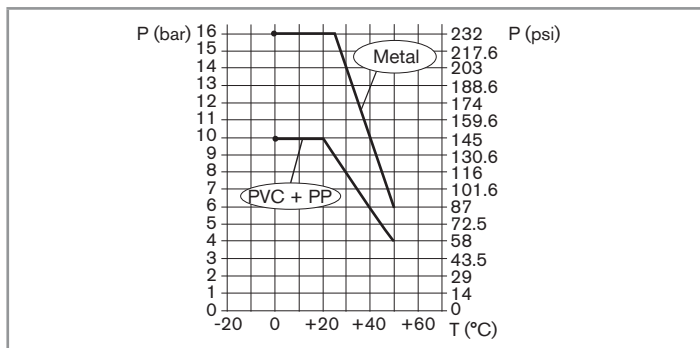
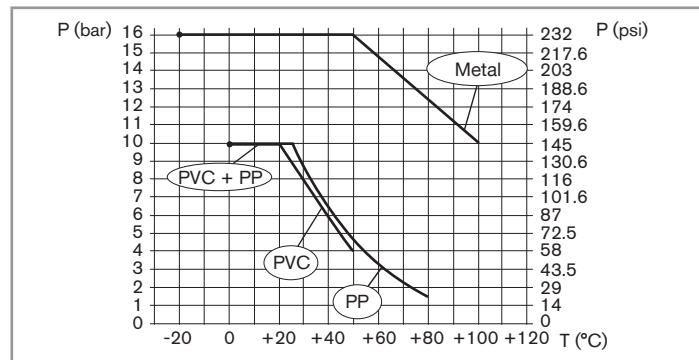

Fig. 4: Dependency between the fluid temperature and the fluid pressure, device variant with a PVC union nut, with Type S022 in metal, PVC or PP
Fig. 5: Dependency between the fluid temperature and the fluid pressure, device variant with a PVDF union nut, with Type S022 in metal, PVC or PP
• Device variant with a G 1 1/2" union nut	PN16 ³⁾ The fluid pressure may be restricted by the fluid temperature, the material of the union nut and the material from which the Type S022 is made. Refer to Fig. 2 , Fig. 4 and Fig. 5 .
• Device variant with a G 1 1/2" union nut	The fluid temperature may be restricted by the fluid pressure, the material of the union nut and the material of the Type S022 used. Refer to Fig. 2 , Fig. 4 and Fig. 5